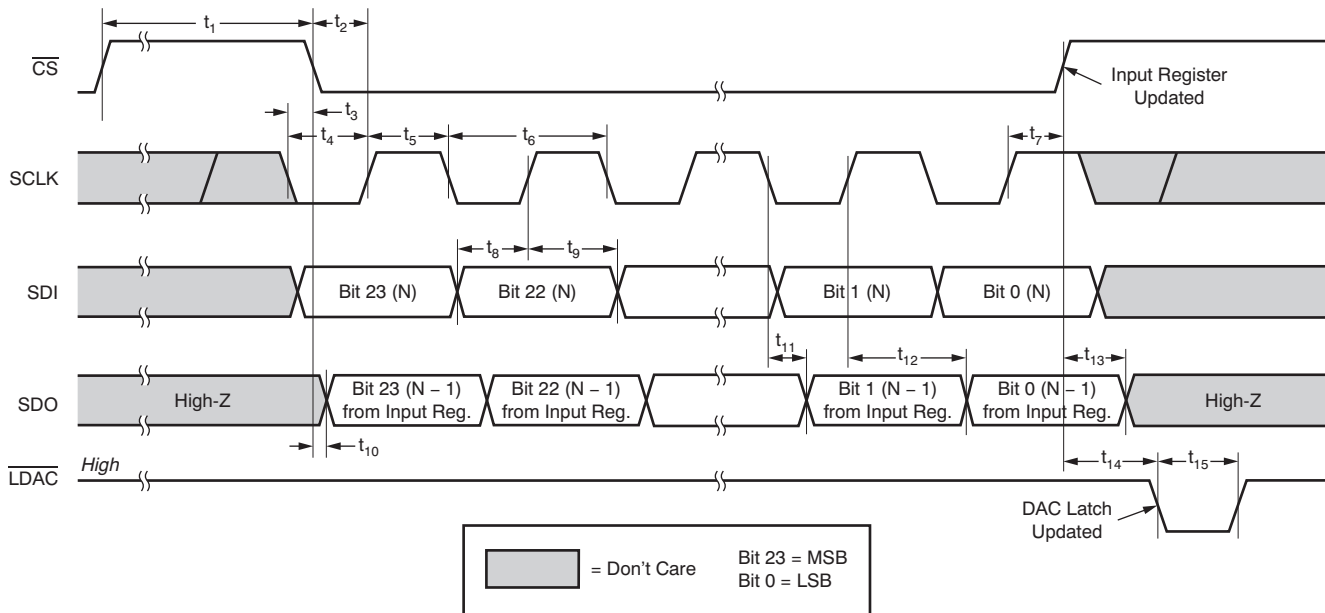

**Figure 1. Timing Diagram for Standalone Operation Without SDO**
at  $-40^{\circ}\text{C}$  to  $+105^{\circ}\text{C}$  (unless otherwise noted); see Figure 1 (1)(2)(3)